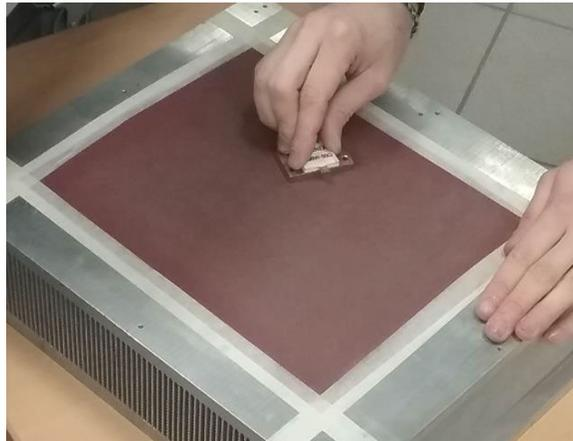

Figure 143: Check load mounting flange flatness
- STEP 7: Check flatness of mounting flange of replacement load by rubbing it in circles across a piece of coarse grit sandpaper, as shown in Figure 143.